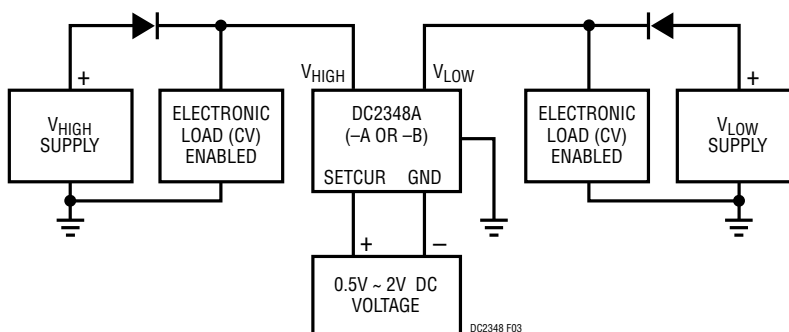

Figure 3. Proper Equipment Setup For Bidirectional Current Transition Tests (DC2348A in CC Mode)
**NOTE (Constant Current Mode Only):** When doing the bidirectional current transition tests, both VHIGH and VLOW sides need a power supply and an electronic load which is active in the CV mode. In this case, the electronic load functions like a battery which is being charged. Make sure the power supply voltages are always below the same side electronic load voltages. See Figure 3 for proper equipment setup.